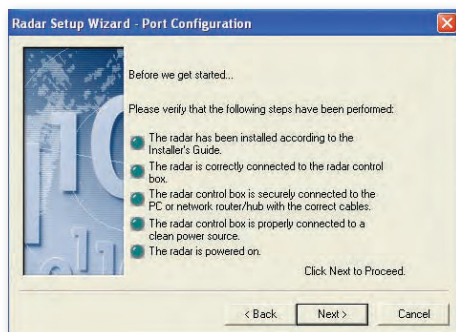

Figure 2.3 - Radar Setup Wizard - Port Configuration
3. Verify that you have accomplished all of the requirements as outlined by the bullet points shown in **Figure 2.3** and then click **Next**.